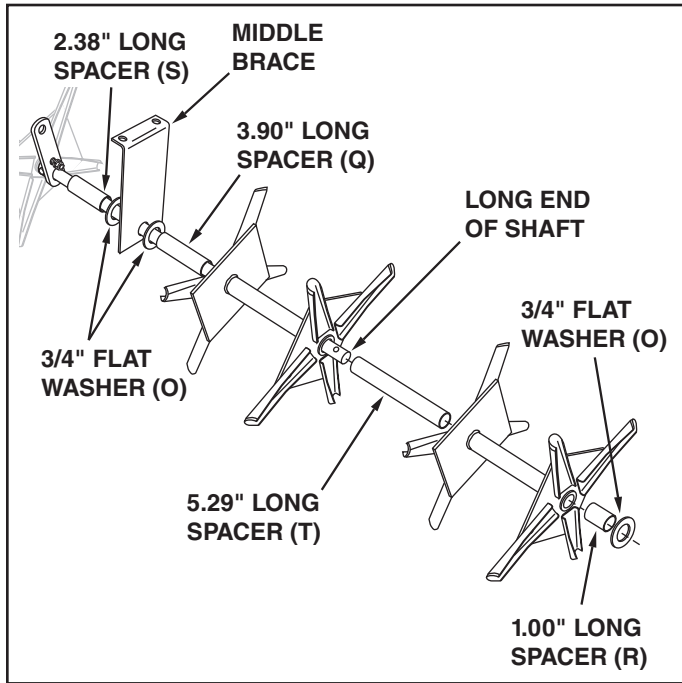

FIGURE 4
6. Assemble a 2.38" long spacer (S), a 3/4" flat washer (O), the middle brace, a 3/4" flat washer (O) and a 3.90" long spacer (Q) onto the **long end** of the shaft. The bent lip of the middle brace must face the short end of the shaft. Next assemble a spool assembly, a 5.29" long spacer (T), another spool assembly, a 1.00" long spacer (R) and a 3/4" flat washer (O) onto the shaft. See figure 4.